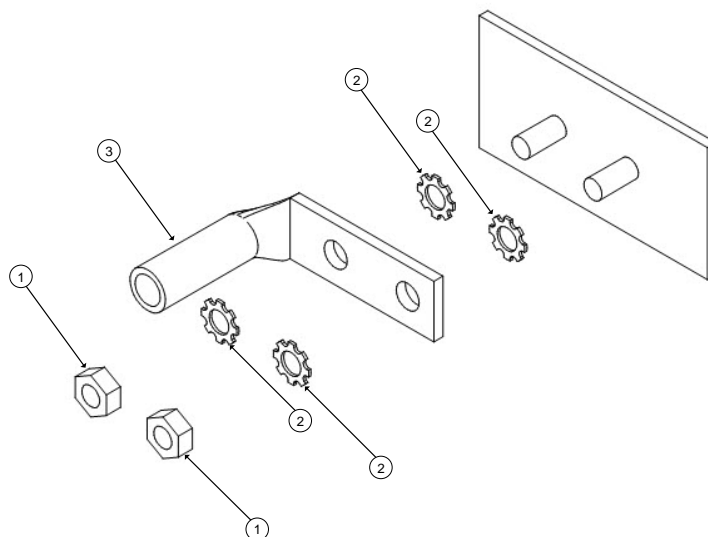

Figure 2-2: NEBS Bonding System
- Fasten the bonding lug to the equipment as shown in Figure 2-2. The ground lug must be secured as shown using four star washers (to prevent anti-rotation of the nuts) and two M4 nuts. Tighten the nuts securely to provide a good bonding connection.